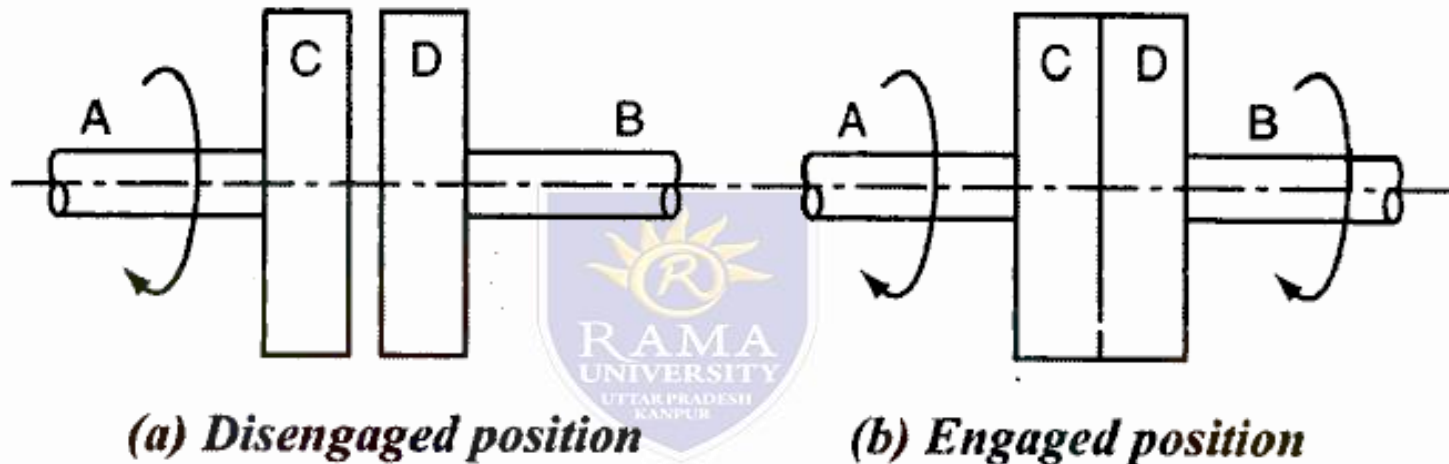

Figure 3.2 Principle of friction clutch
- The clutch works on the principle of friction. In Figure 3.2, the driving shaft A with flange C is rotating at 'N' rpm and shaft B with the flange D is keyed to the driven shaft which is in stationary position when the clutch is not engaged. Now, external force is applied to the flange D so that it comes in contact with flange C. As soon as the contact is made, they are united due to friction between them and the flange D starts rotating with flange C. The rotational speed of flange D depends on the friction between surfaces C and D which in turn is proportional to the external force applied.